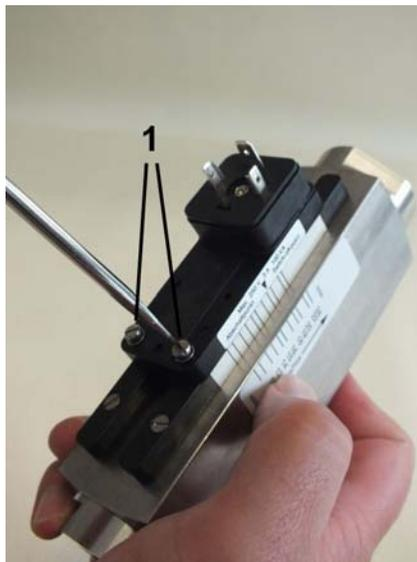

Fig. 52: Loosen set screws
3. ➔ Using a flat-bladed screwdriver (Fig. 52/1) loosen the set screws of the switch contact until it moves freely
11. ➤ Retighten the set screws (Fig. 52/1) observing the tightening torque of the screws (↳ *Chapter 11.1 "Tightening torque" on page 76*)